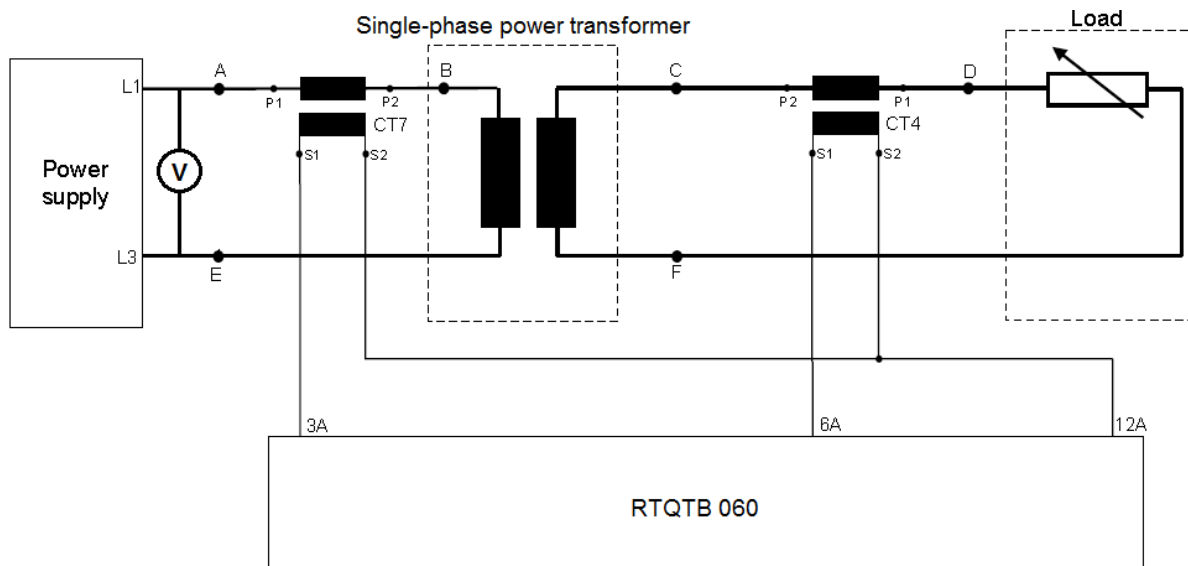

Figure 3: Differential relay protection on single-phase power transformer
2. Connect the circuit as shown in Figure 3. Insert a voltmeter between L1 and L3 of the power supply. Use Load as resistive load R (MV 1100) and set it to maximum resistance.